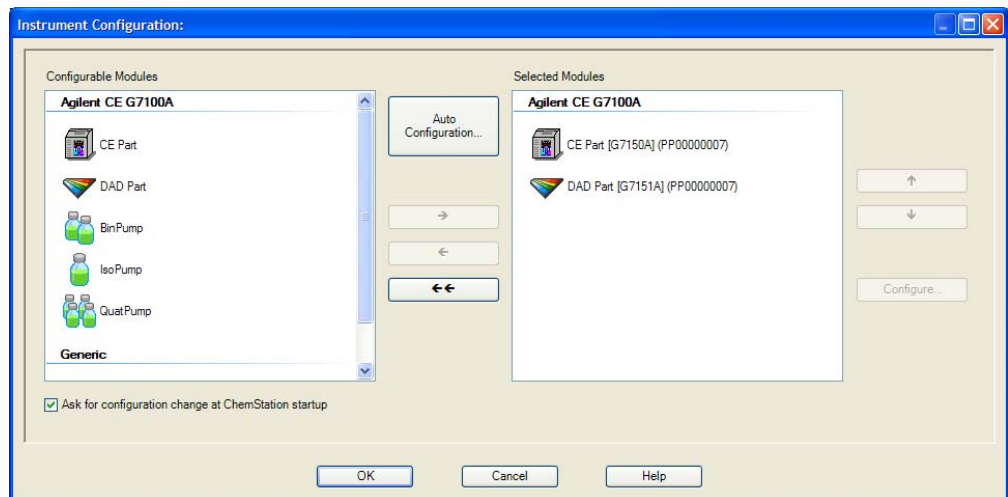

Figure 44 Configuration menu
- 5 Select under **Instrument** in the CE diagram the **Instrument Configuration** Menu, see Figure 44.